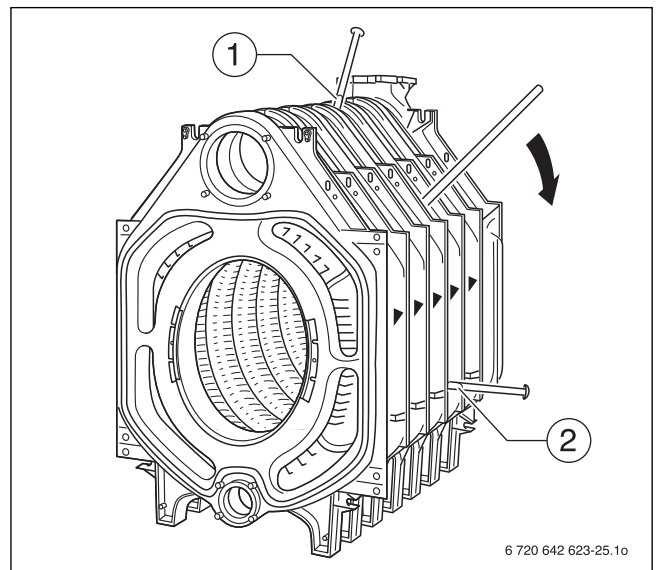

Fig. 27 Separating the boiler block
- ▶ Separate the boiler at the leak location by driving (knocking) in flat wedges or chisels between the sections at the points provided at the top and bottom (→ Fig. 27, [1 and 2], between the sections).